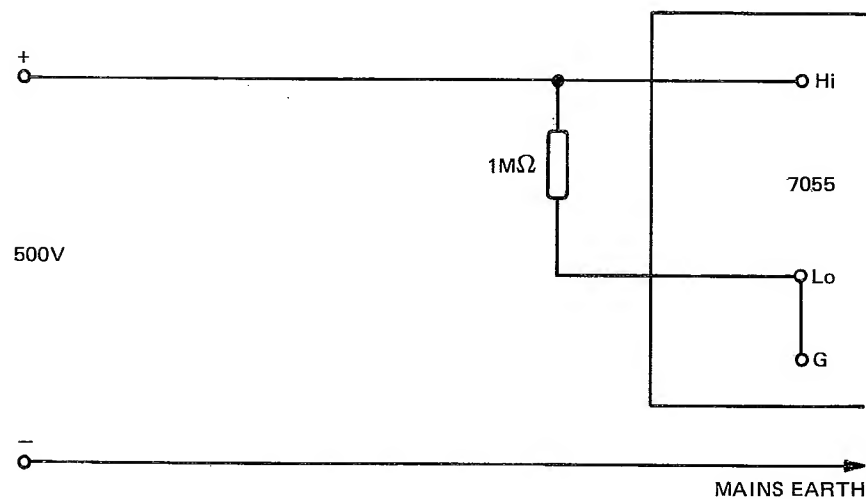

Fig. 5.7
1. Connect the instrument as shown in Fig. 5.7.